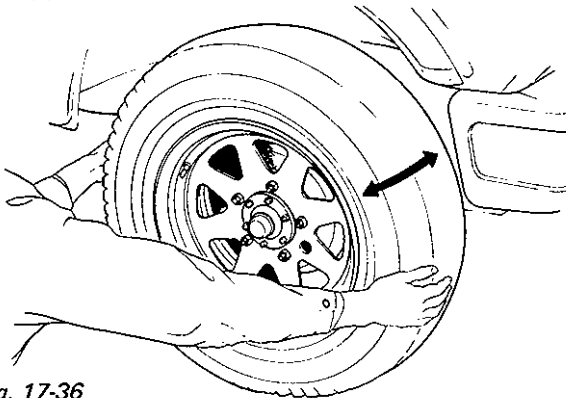

Fig. 17-36
- 1) Shake the wheel in the direction given by an arrow in Fig. 17-36 to see if the bearing rattles.